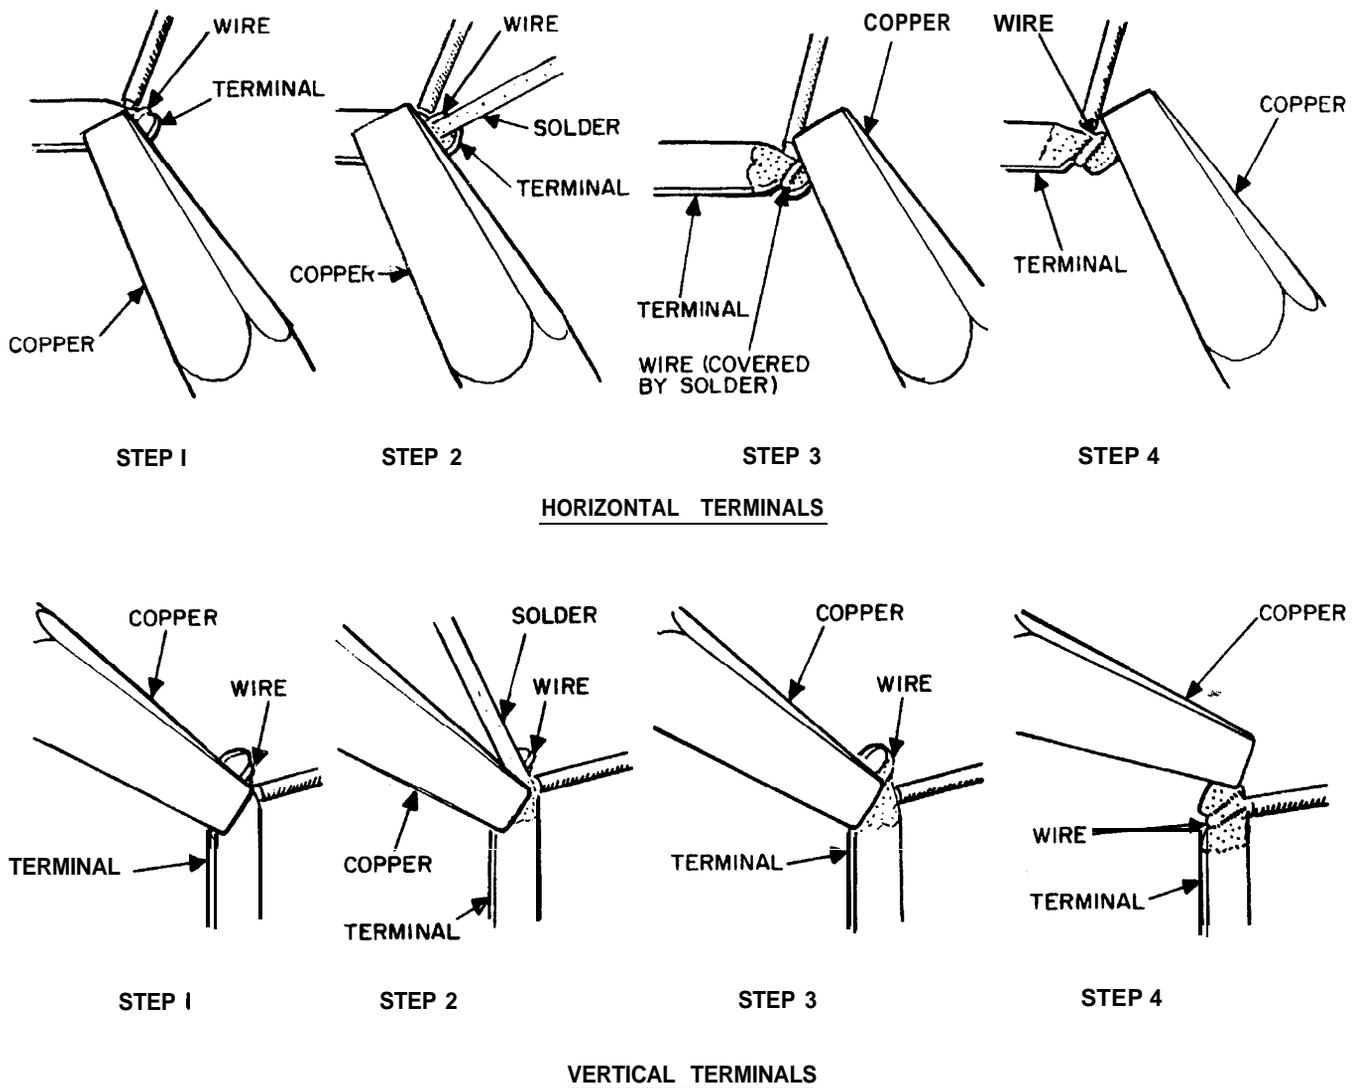

Figure 14. Soldering Wire to Notched Terminals
6.20 Wrap all wires and jumpers so that the solder will be on the top of the terminal on vertical terminal blocks or on the right side of the terminal on horizontal terminal blocks as seen from the front of the block (Figure 14).
6.22 Apply rosin core solder to the tip of a hot soldering copper momentarily so as to leave a small amount of molten solder on the tip. Next, apply the tip to the terminal and wire. As the terminal and wire attain proper soldering temperature, the molten solder will spread over the surfaces of the terminal and wire. As this occurs, a small amount of additional solder is immediately applied to the heated joint as shown in Figure 14, Step 2.